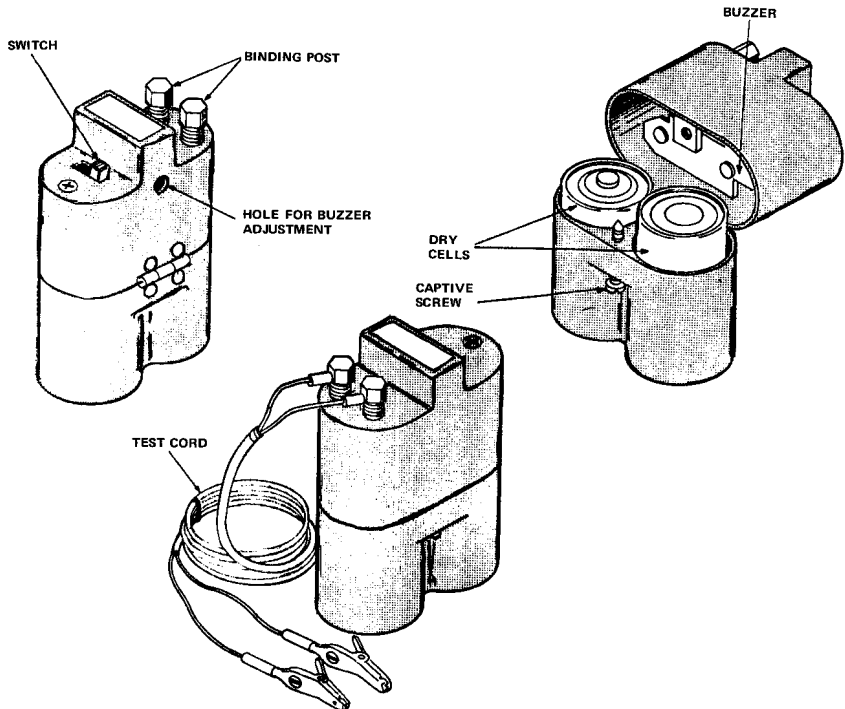

FIGURE 1. 81AW Test Set.
2.01 The 81AW test set (Figure 1) consists of a buzzer, switch and capacitor which are contained in the top of a plastic case. The bottom of the case houses two type D dry cell batteries.